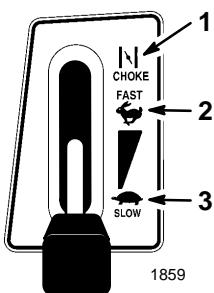

Figure 8
4. Move the throttle lever to “CHOKE” (Fig. 8).
- After the engine starts, slowly move the throttle lever to “FAST” (Fig. 8). If the engine stalls or hesitates, move the throttle lever back to “CHOKE” for a few seconds. Then move the throttle lever to “FAST.” Repeat this as required.
- Move the throttle lever to “SLOW” (Fig. 8).